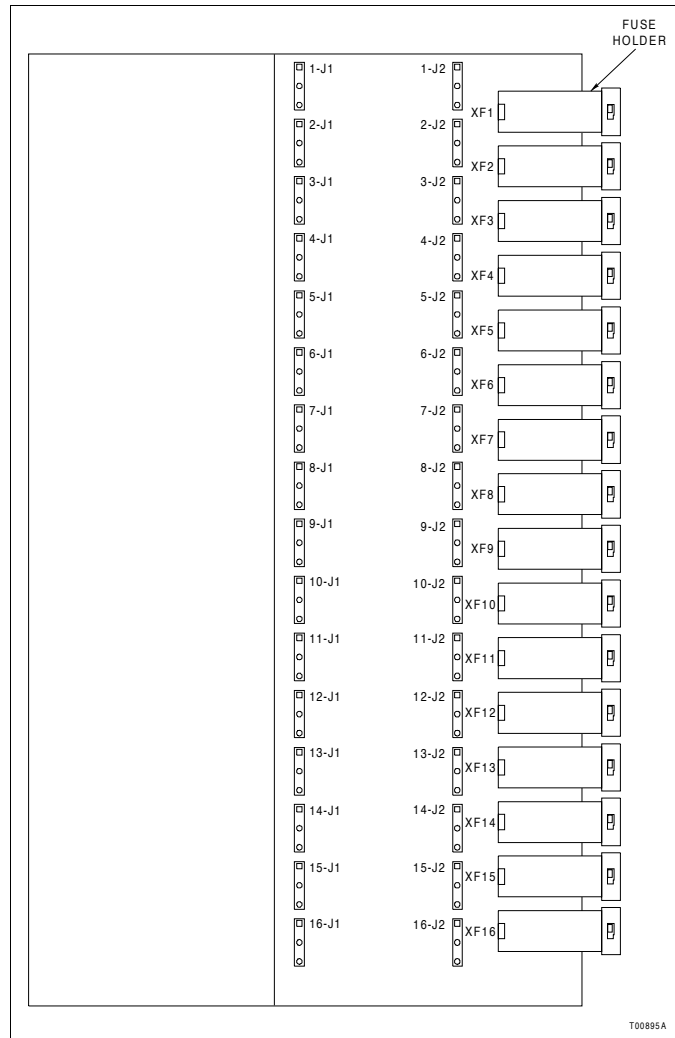

Figure PR14-2. User-Configurable Jumpers - I/O Board
- ☐ 5. Set the readback/fusing select jumpers as appropriate (Table PR14-2). Refer to Figure PR14-2 for the jumper locations.
- ☐ 7. Verify 6.3 A, 250 V fuses are present in each of the DOT-120 block fuse holders XF1 through XF16 (Fig. PR14-2).